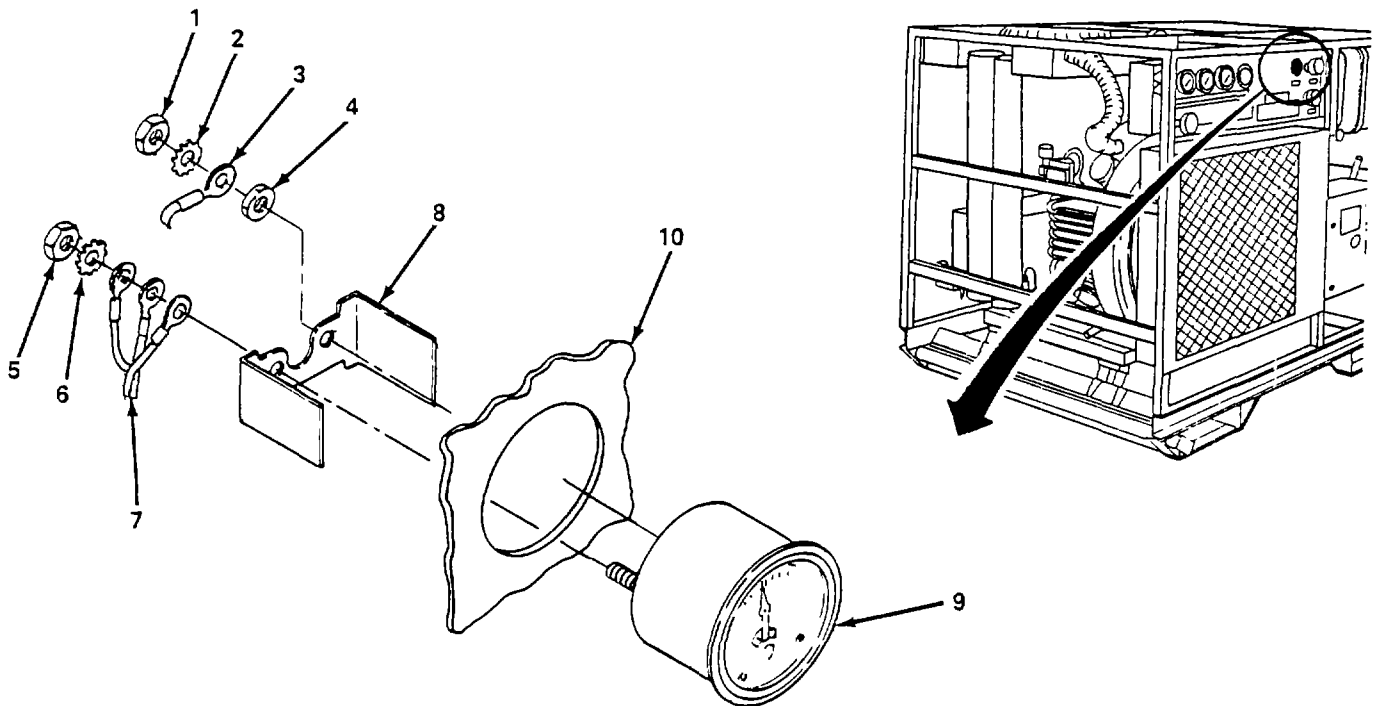

Figure 4-12. Ammeter, Replace.
(3) Ammeter. (figure 4-12)
- (a) Remove nut (1), washer (2), tag and remove wire (3) and nut (4).
- (b) Remove nut (5), washer (6) and tag and remove three wire (7).
- (c) Remove bracket (8) and remove ammeter (9) from control panel (10).
- (d) Install ammeter (9) and bracket (8).
- (e) Install three wires (7) and secure with washer (6) and nut (5).
- (f) Install nut (4), wire (3), and secure with washer (2) and nut (1).